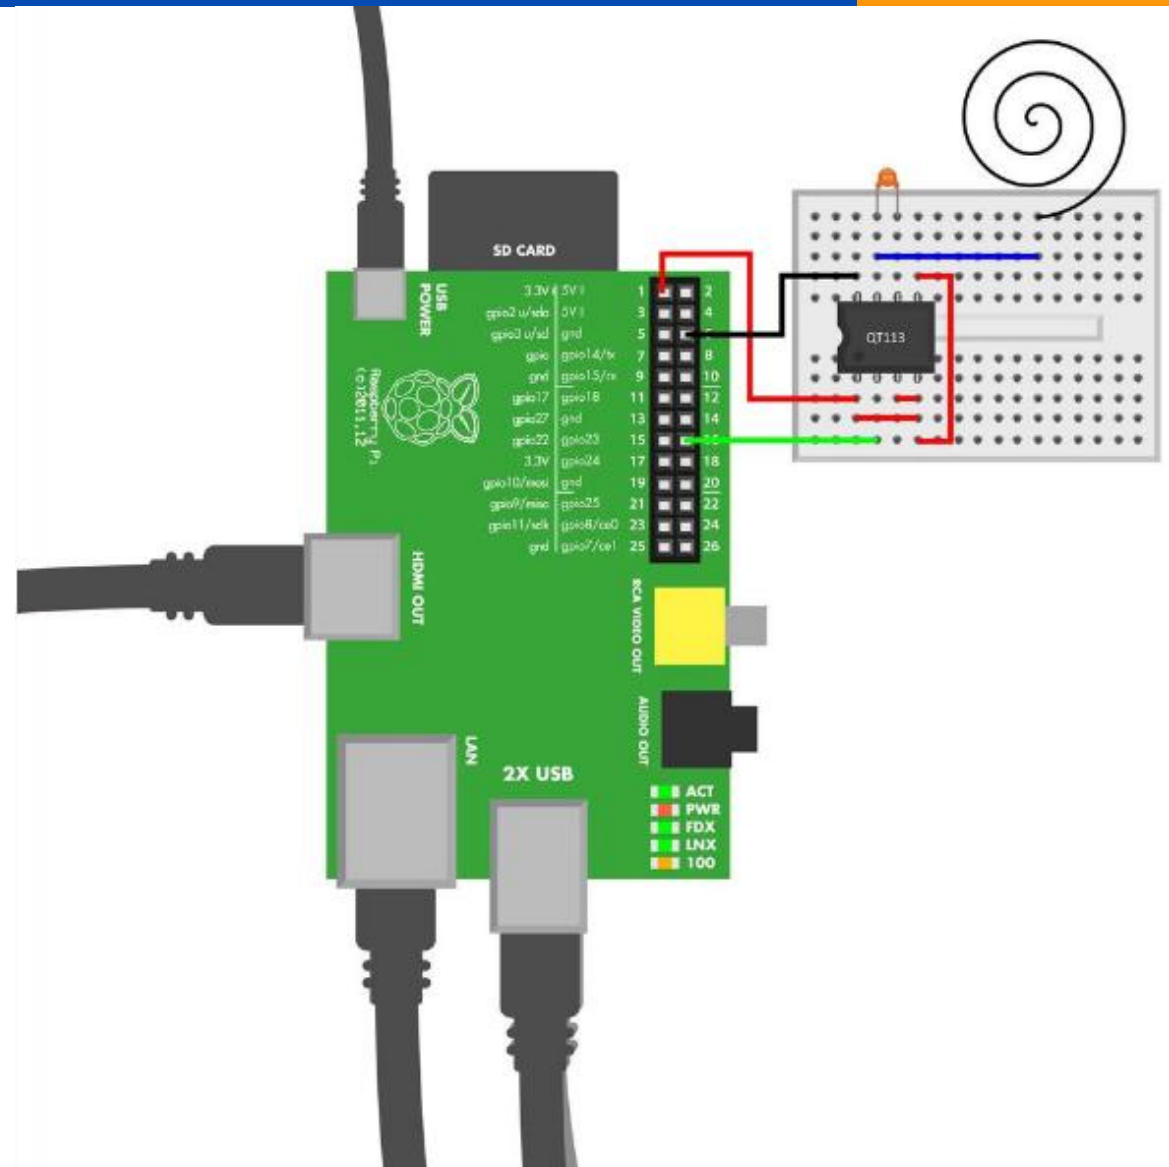

Figure 5-14. QT113 circuit for Raspberry Pi
- Figure 5-14 shows the connections for using Raspberry Pi with the QT113.